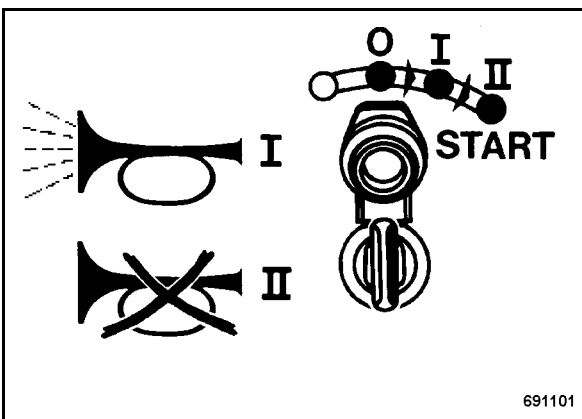

Fig. 18
- Turn the ignition key to position "I" (Fig. 18), the warning buzzer sounds.